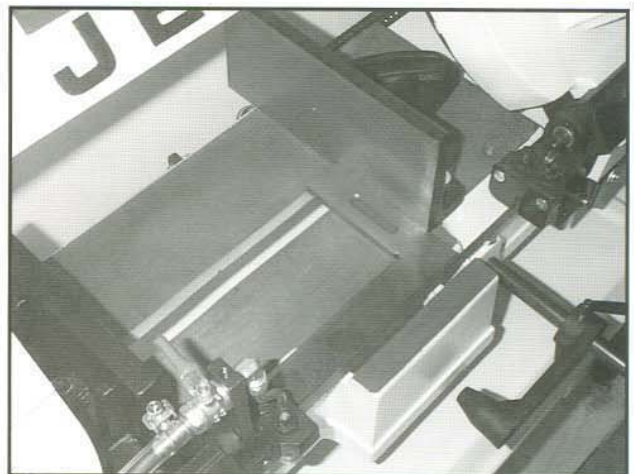

Fig. 14
2. Place a machinist's square as pictured in Figure 14. Square should lie along the entire length of vise and blade without a gap.